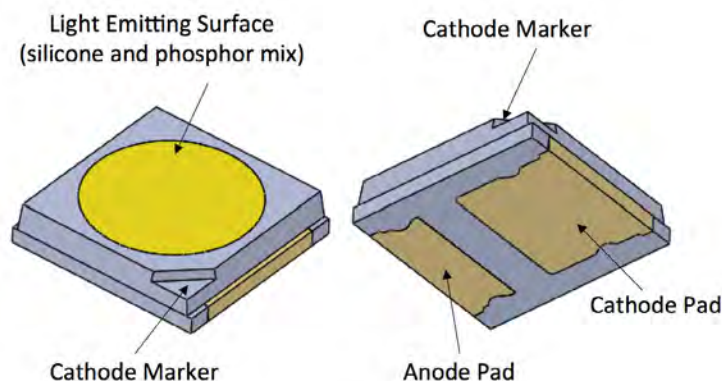

Figure 1. Package rendering of a representative LUXEON emitter.
LUXEON 3535L, LUXEON 3535L Colors, LUXEON 3535L HE and LUXEON 3535LS emitters (Figure 1) consist of a 3535 lead-frame package with an anode and a cathode. A small notch on the corner of the package marks the cathode side of the emitter package. The anode and cathode both serve as thermal pads for the emitter, with the majority of the heat being dissipated through the larger pad, corresponding to the cathode. The LUXEON emitter does not include any transient voltage suppressor (TVS) chip to protect the emitter against electrostatic discharges (ESD). Appropriate precautions should therefore be taken when handling this device (see Section 5.5).
2. The nozzle outer diameter should also not be smaller than the Light Emitting Surface (LES) diameter (Figure 1) otherwise this may allow the nozzle tip to be in full contact with the silicone-filled LES area and may cause damage to the surface or cause pick-up/release issues. Recommended outer diameter is 3.5mm. There are two LES diameters for LUXEON emitters; 2.6mm and 3.0mm. See respective datasheets for mechanical package dimensions.